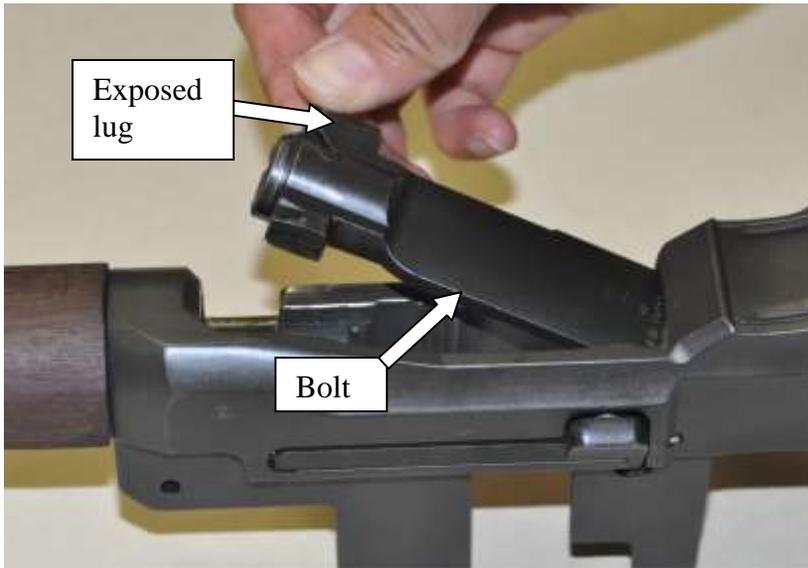

Figure 22 -Bolt removal by exposed lug
- 6) From the shooter's perspective, grasp the bolt on the exposed lug and slide the bolt forward while lifting it upward and outward with a rotating motion (fig 22).